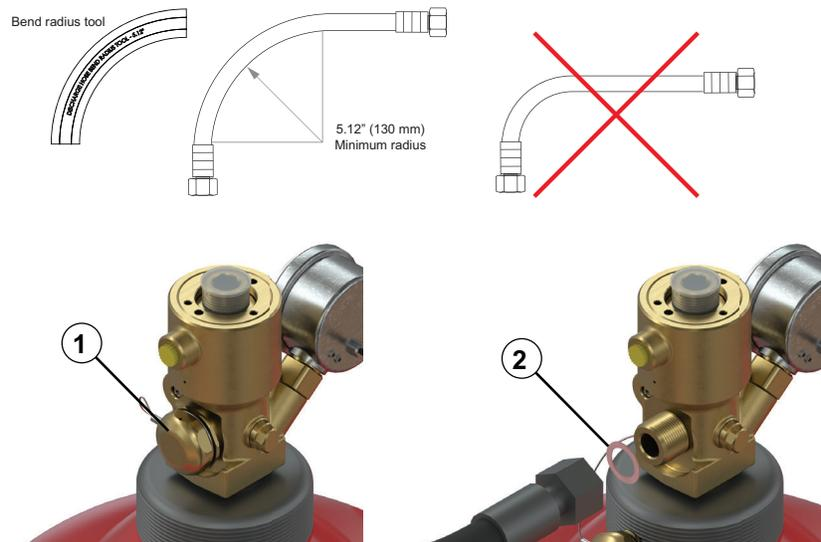
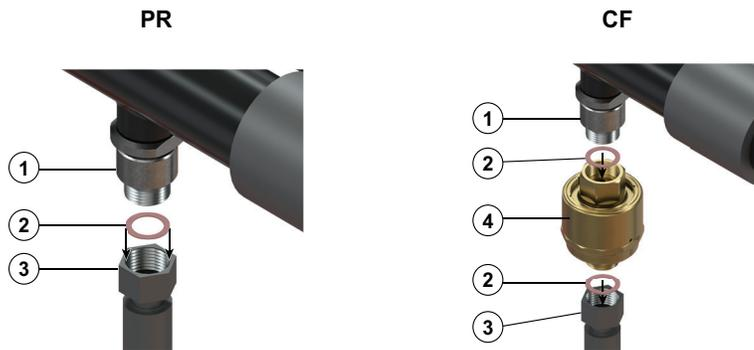

Figure 6.10: Installing the hose onto the cylinder valve
Figure 6.11: Installing the hose and/or regulator onto the manifold
- Do not bend the hose less than its **MINIMUM** radius of 5.12 inches (130 mm). Refer to Figure 6.10
2. Insert a gasket (2) into an end of the hose.
- Do not bend the hose less than its **MINIMUM** radius of 5.12 inches (130 mm). Refer to Figure 6.10 on page 80.
- For PR only, screw the hose union (3) onto the preinstalled manifold check valve (1) to a torque of 40.16 ± 3.7 ft-lb. This concludes the procedure for the PR system.
- For CF only, install the pressure regulator (4) between the hose (3) and the check valve (1) as shown in Figure 6.11 .